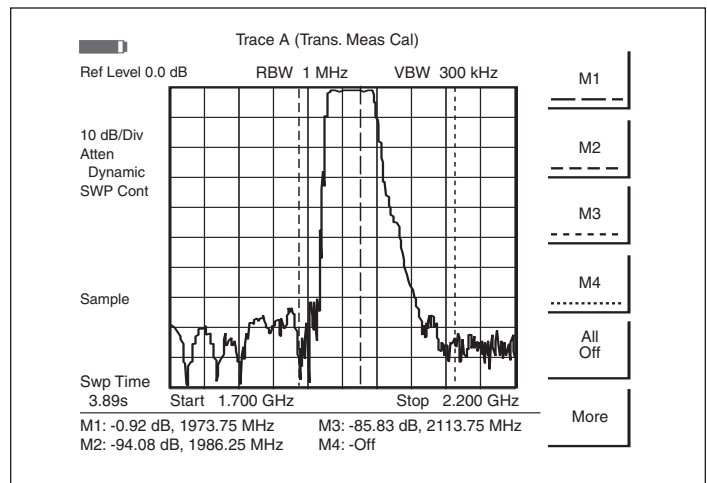

Figure 8. Transmission measurement results for a passive device.
5. Reconnect the filter and make the measurements (see Figure 8).